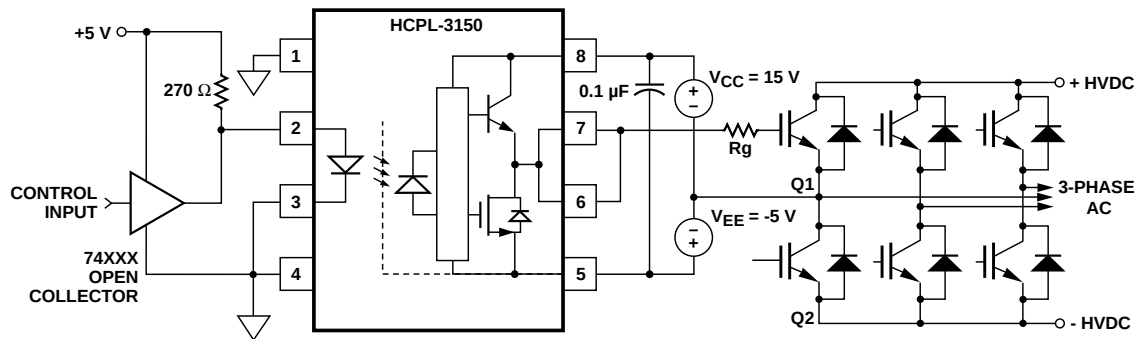

Figure 26. HCPL-3150 Typical Application Circuit with Negative IGBT Gate Drive.
Step 1: Calculate Rg Minimum From the I_{OL} Peak Specification. The IGBT and Rg in Figure 26 can be analyzed as a simple RC circuit with a voltage supplied by the HCPL-3150.
For the circuit in Figure 26 with I_F (worst case) = 16 mA, Rg = 30.5 Ω, Max Duty Cycle = 80%, Qg = 500 nC, f = 20 kHz and T_A max = 90°C: